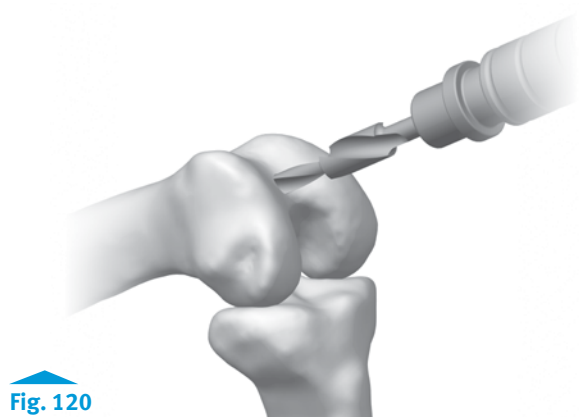

Fig. 120
- After attaining the desired soft tissue exposure, use the 8mm IM Step Drill to make a starter hole (Fig. 120).